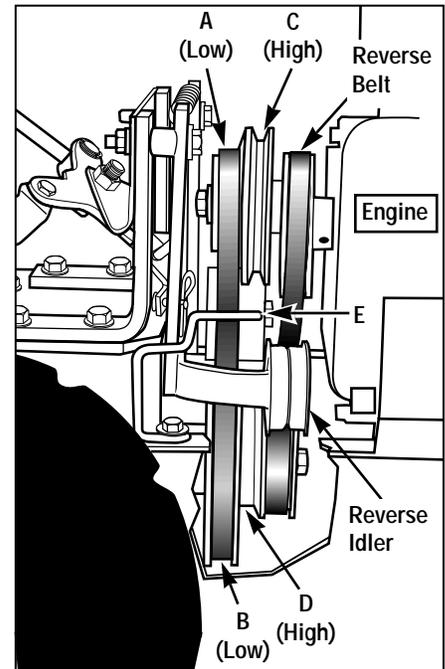

Figure 4-10: Right-side view of engine and transmission pulleys (engine is at right-side of view).
4. From beneath the tiller, move the forward drive belt out of the transmission low speed groove (B, Figure 4-10) and into the high speed groove (D).
5. Pull upward on the belt to remove any slack and slip the belt out of the engine drive pulley low speed groove (A, Figure 4-10) and into the high speed groove (C).
6. Check that the belt is within the forward belt guide (E, Figures 4-10 and 4-11) on the right-side of the unit and is within the forward idler (F, Figure 4-11) on the left-side. Be sure that the belt is situated in the center grooves (C and D, Figure 4-10) of the engine (upper) and transmission (lower) pulleys.
4. From beneath the tiller, move the forward drive belt out of the transmission pulley high speed groove (D, Figure 4-10) and into the low speed groove (B).
5. Pull upward on the belt to remove any slack and slip the belt out of the engine drive pulley high speed groove (C, Figure 4-10) and into the low speed groove (A).
6. Check that the belt is within the forward belt guide (E, Figures 4-10 and 4-11) on the right-side of the unit and is within the forward idler (F, Figure 4-11) on the left-side. Be sure that the belt is situated in the rear grooves (A and B, Figure 4-10) of the engine (upper) and transmission (lower) pulleys.